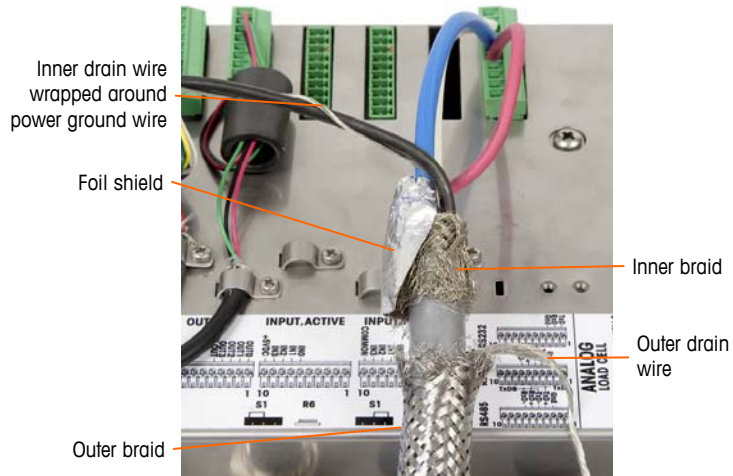

Figure 2-50: PDX Home Run Cable, Panel Mount Enclosure
- a. Slide back the outer braid and fold the trimmed inner braid and foil shield back evenly over the edge of the cable insulation sheath, as shown in Figure 2-50.